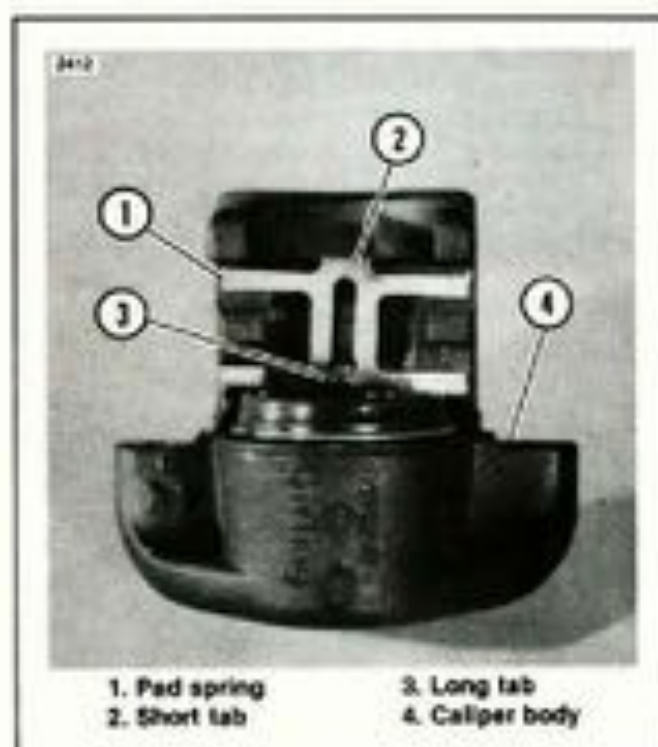

Figure 2-65. Pad Spring Installation
1. If piston was removed install new seal (12) into caliper bore. Install piston (11) all the way into caliper bore and install boot (10) and retaining wire (9).
2. Place pad spring (8) into top of caliper with long tab extending above piston. Hook short tab opposite piston above ridge on caliper casting to hold spring in place. Refer to Figure 2-65.
3. Install pin boots (7) on pins (5 and 6) and coat pins and pin bores with silicone grease. Insert pins into